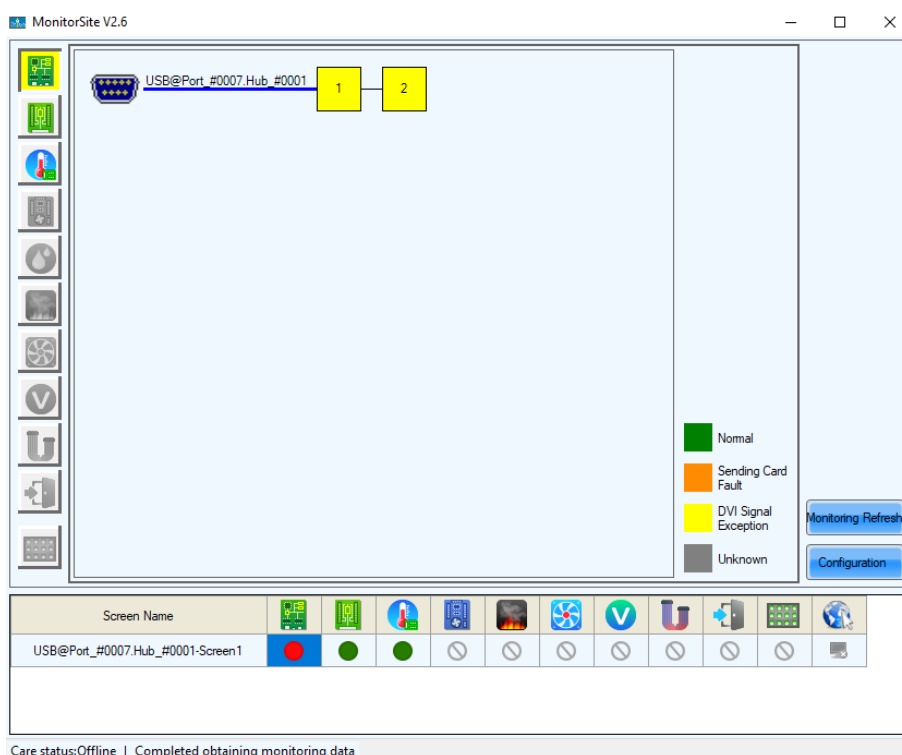

Figure 97: Start Screen Monitoring Sending Card
Step 2) Click **Sending Card** button to switch to the Monitoring view for the Sending card (see Figure 97).